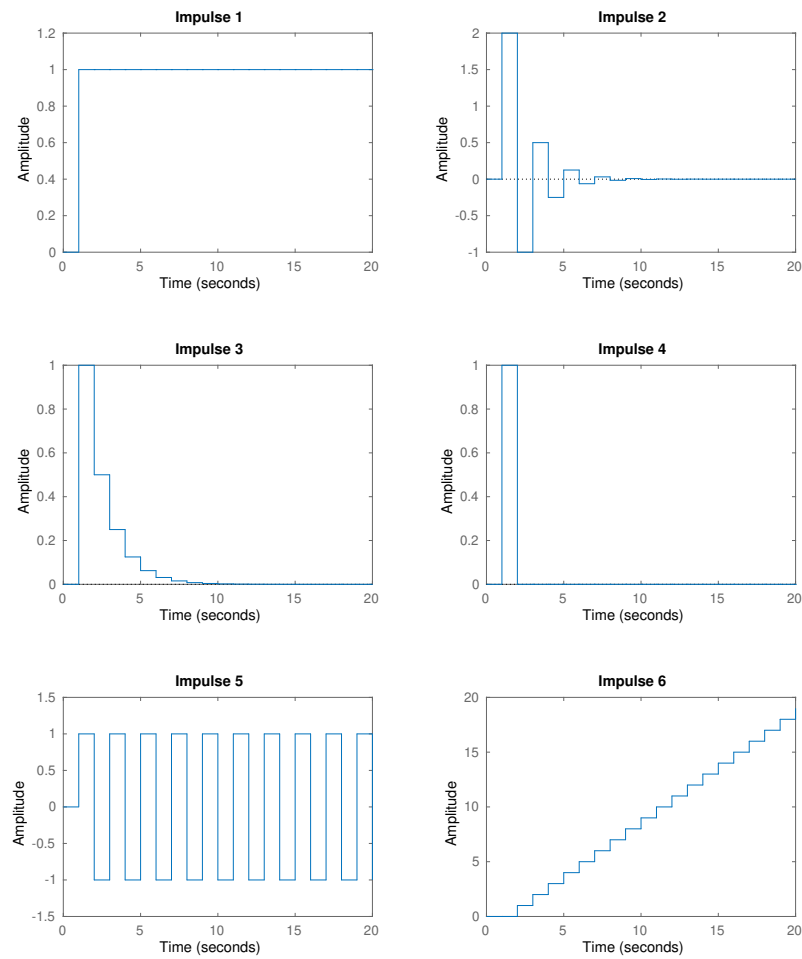
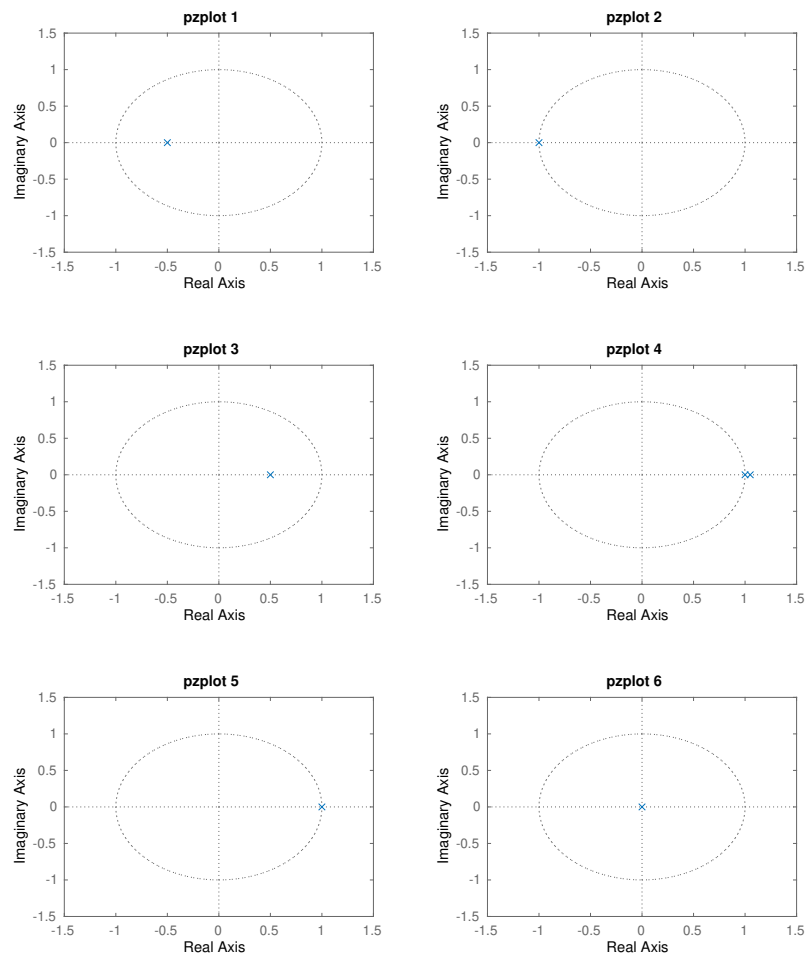

Figure 3 Impulse responses for Question X
Figure 4 Pole zero plots for Question X
3. Match the impulse responses in Figure 3 to the pole zero plots from Figure 4. Do not forget to motivate your answers. (2 p)